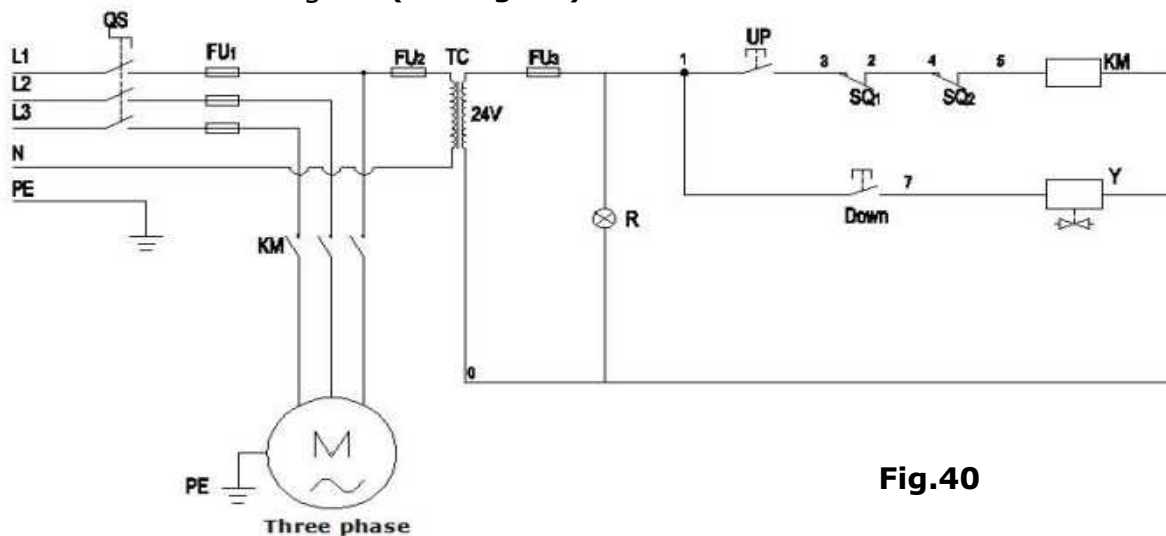

Fig.40
2.3 380V Circuit diagram (See Fig. 40).